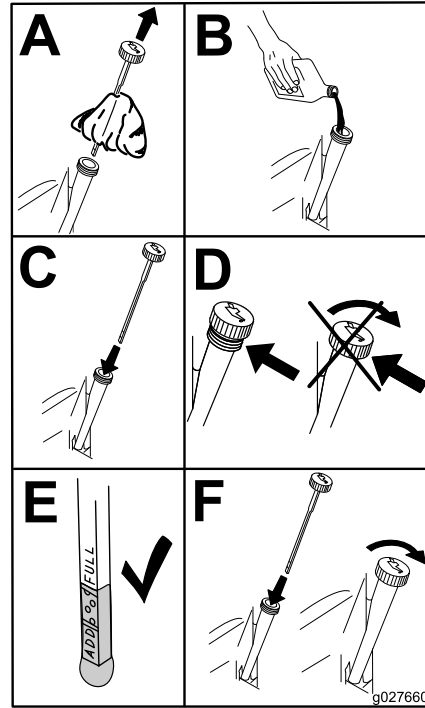

Figure 59
6. Slowly pour approximately 80% of the specified oil into the filler tube and slowly add the additional oil to bring it to the Full mark (Figure 59).
3. Fill the crankcase with the proper type of new oil (Figure 59).